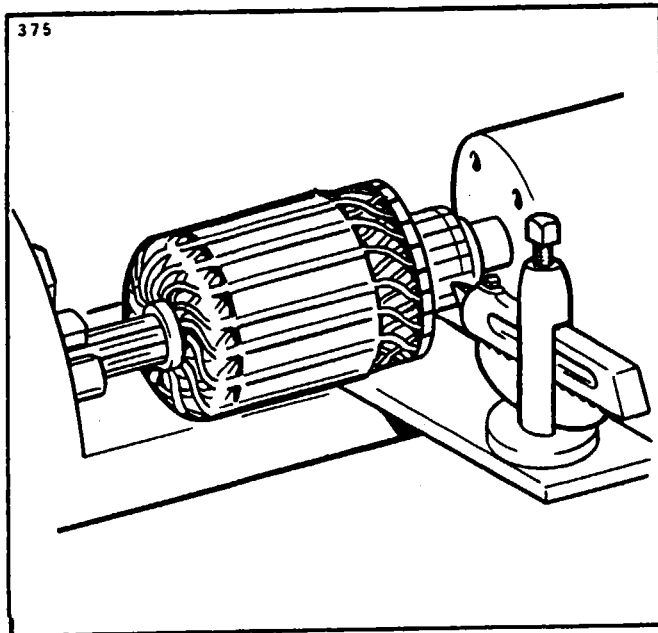

Figure 11-17. Turning Starting Motor Commutator
a. Check the commutator for uneven wear, excessive glazing or evidence of excessive arcing. If only slightly dirty, glazed or discolored, the commutator can be cleaned with 00 or 000 sandpaper. If the commutator is rough or worn, it should be turned in a lathe. Refer to Figure 11-17. The armature shaft should be inspected for rough bearing surfaces and rough or damaged splines.